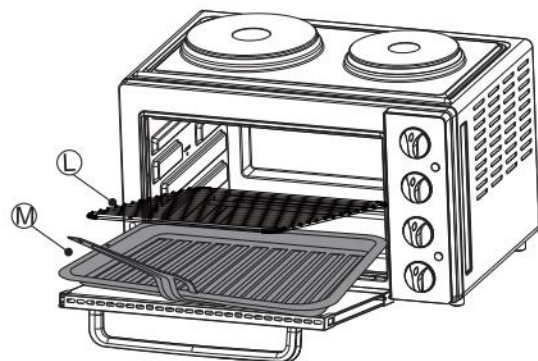
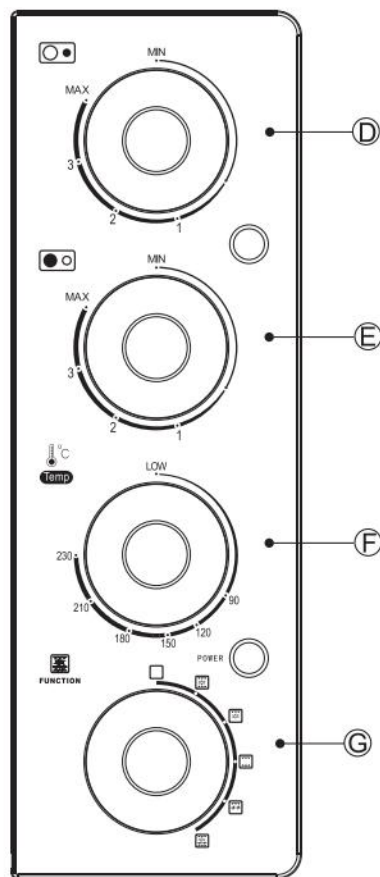

fig. 1
fig. 2
- The oven, Grill Rack (L) and Baking Tray (M) are coated in oil that needs to be burnt off before using the oven.
1. Insert the Grill Rack (L) and Baking Tray (M) into the oven.
**See fig. 1.**
2. Set the Function dial (G) to to turn the oven on, and then set the Oven Temperature dial (F) to maximum.
**See fig. 2.**
4. Once the oven has stopped smoking and the smell has gone, turn the function dial (G) to off position "□", and set the Oven Temperature dial (F) to LOW.